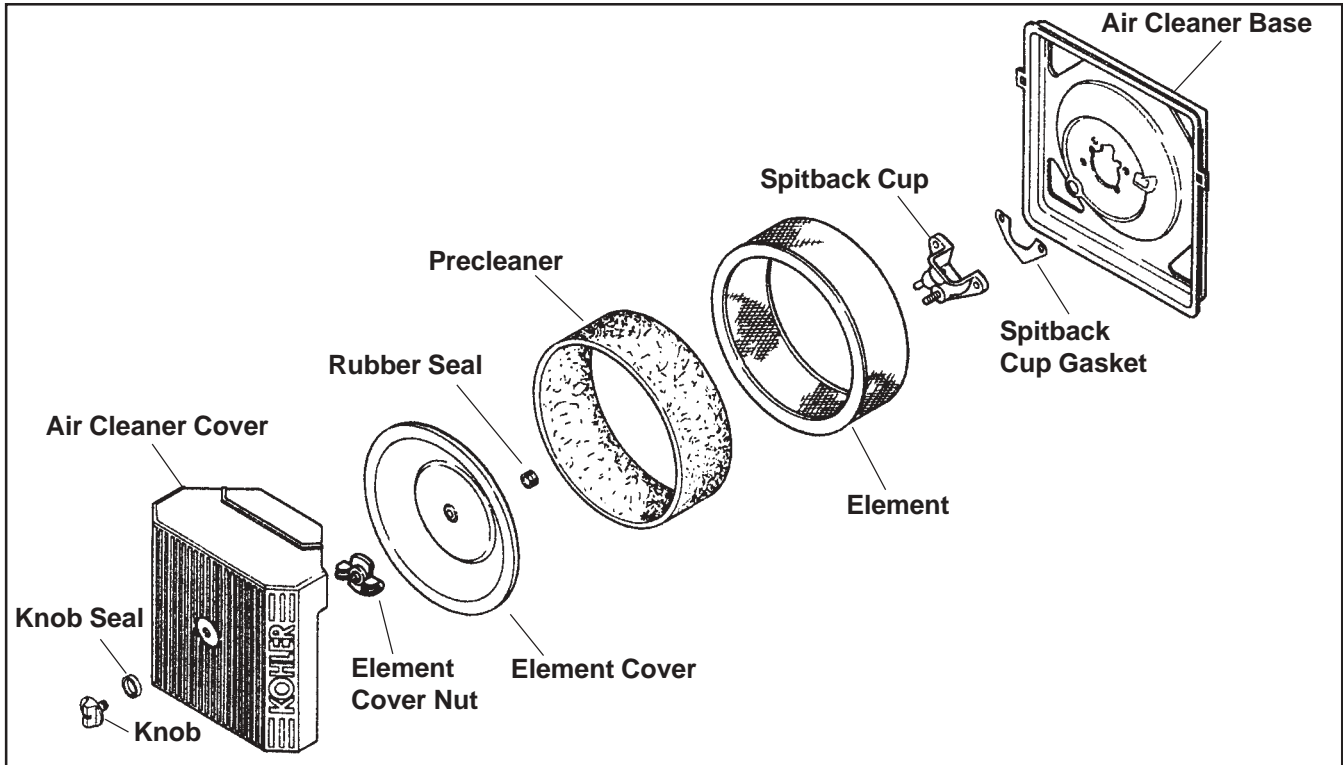

Figure 4-5. Air Cleaner System Components - Standard.
Every **100 hours** of operation (more often under extremely dusty or dirty conditions), replace the paper element. See Figures 4-5 or 4-6, and follow these steps:
1. Remove the air cleaner components from the base (see Figure 4-5).